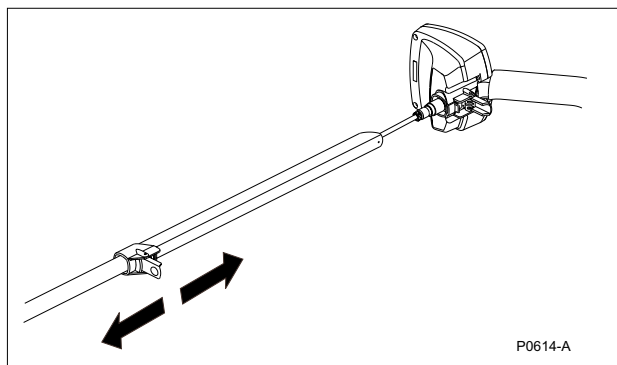

Figure 2.7 Preventing the coil cable 'bunching'
- STEP 3** (Figure 2.7) To prevent the coil cable from 'bunching', extend the lower shaft from the upper shaft by approximately 15cm (6 inches).